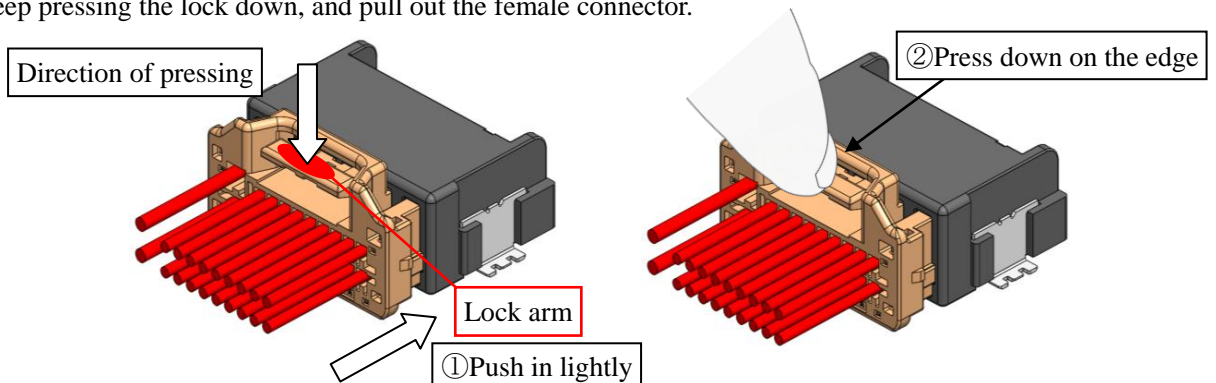

Fig39.Lock arm
- ① Hold the female connector and push it in lightly.
- ② While holding the female connector in, press down fully on the end of the arm (see Fig. 39).
- ③ Keep pressing the lock down, and pull out the female connector.